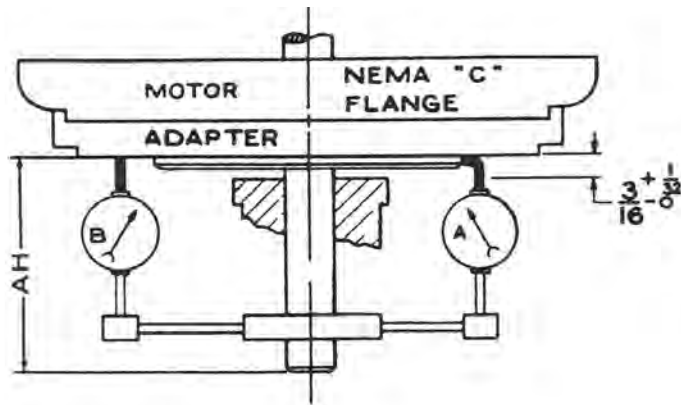

Figure 3. 60 Series Hazardous Location Brake - Adapter Installation
## INSTALLATION OF BRAKE WITH ADAPTER ON MOTOR ENDSHIELD (See Figure 3)
Check alignment of adapter. Clamp dial indicator to brake hub (position A) and measure pilot eccentricity. This must not exceed .002" total indicator reading for a full revolution of hub. Reposition dial indicator (position B) and check adapter face runout which must not exceed .004" total indicator reading for a full revolution of the hub. Remove hub (6) from brake and mount hub with key (not supplied by Dings) on motor shaft per dimension shown in Figure 3. Tighten both setscrews to 8-10 lb. ft. torque. Complete mounting of brake per paragraphs 2 through 6.